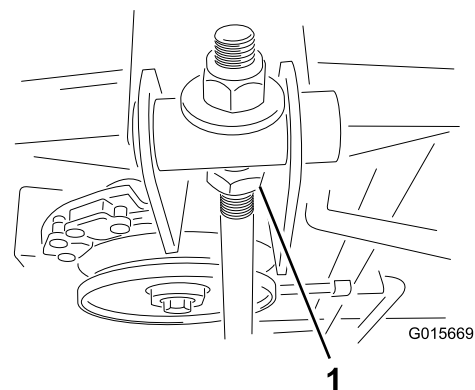

Figure 38
- Loosen the jam nut (Figure 38).